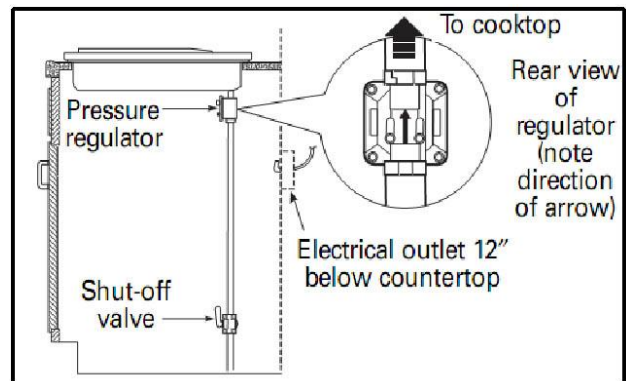

Figure 13
- If the cooktop is converted for **liquid petroleum (LP) gas**, the LP gas supply is required to provide a minimum of 10" to a maximum of 14" water column to the cooktop regulator.
• **⚠** The gas supply line must be equipped with an approved manual shut-off valve. In an easily accessible location in the same room as the cooktop. Do not block access to the shutoff valve. Be sure you know how and where to shut off the gas supply to the cooktop. Install the electrical outlet 12" below the countertop (see Figure 13).